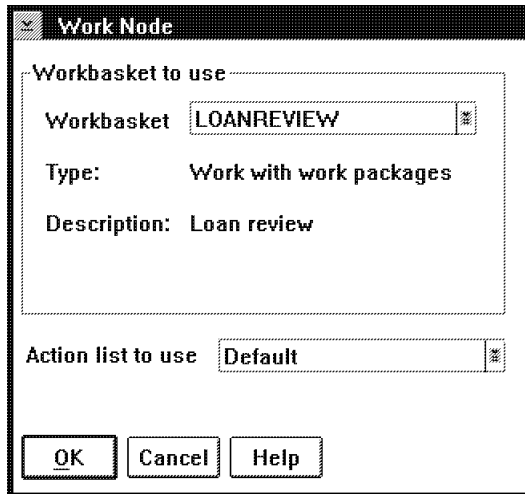

Figure 30. Work Node Window
1. Double-click mouse button 1 on the work node in the work process diagram. You see the Work Node window shown in Figure 30 on page 67.